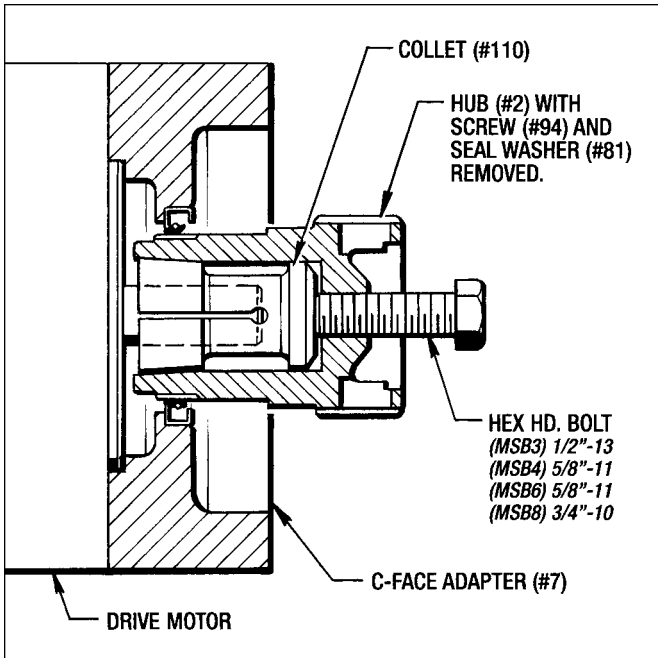

Figure 7.6 - Removing Hub (#2) and Collet (#110)
2. Screw a Hex Hd. Bolt into the Hub (#2) until it contacts the Collet (#110). Holding the Hub (#2) with the screw driver continue turning the bolt until the Hub is forced off the Collet. (See Figure 7.6)